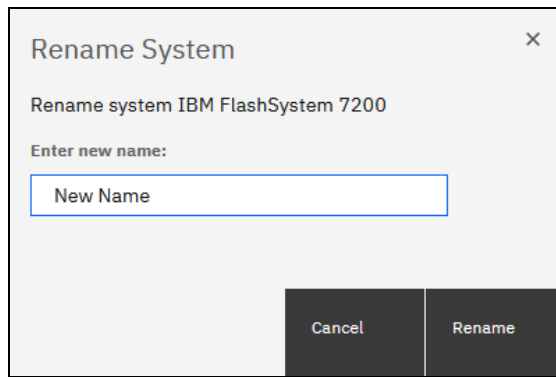

Figure 4-111 Renaming the system
2. The Rename System window opens (see Figure 4-111). Specify a new name for the system and click **Rename**.